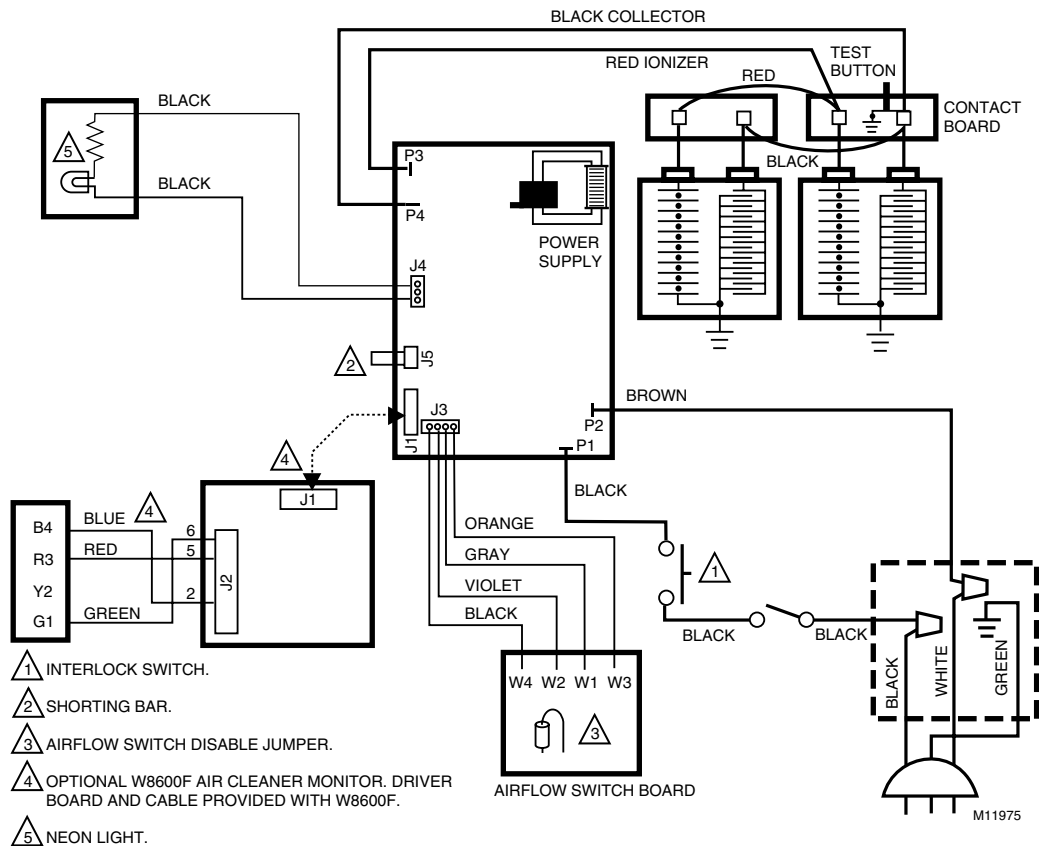

Fig. 17. Internal schematic for electronic air cleaner with W8600F.
- When the system fan comes on the Airflow Switch (AFS) senses the negative pressure in the duct and turns the power supply on. If power to the air cleaner is controlled by another switch the AFS can be disabled by cutting the humper on the back of the AFS circuit board. See Fig. 17.
- Plug the electronic air cleaner directly into the correct voltage and frequency outlet. See Fig. 17 for internal schematic. The air cleaner will operate properly with any fan when wired with conduit or plugged in.